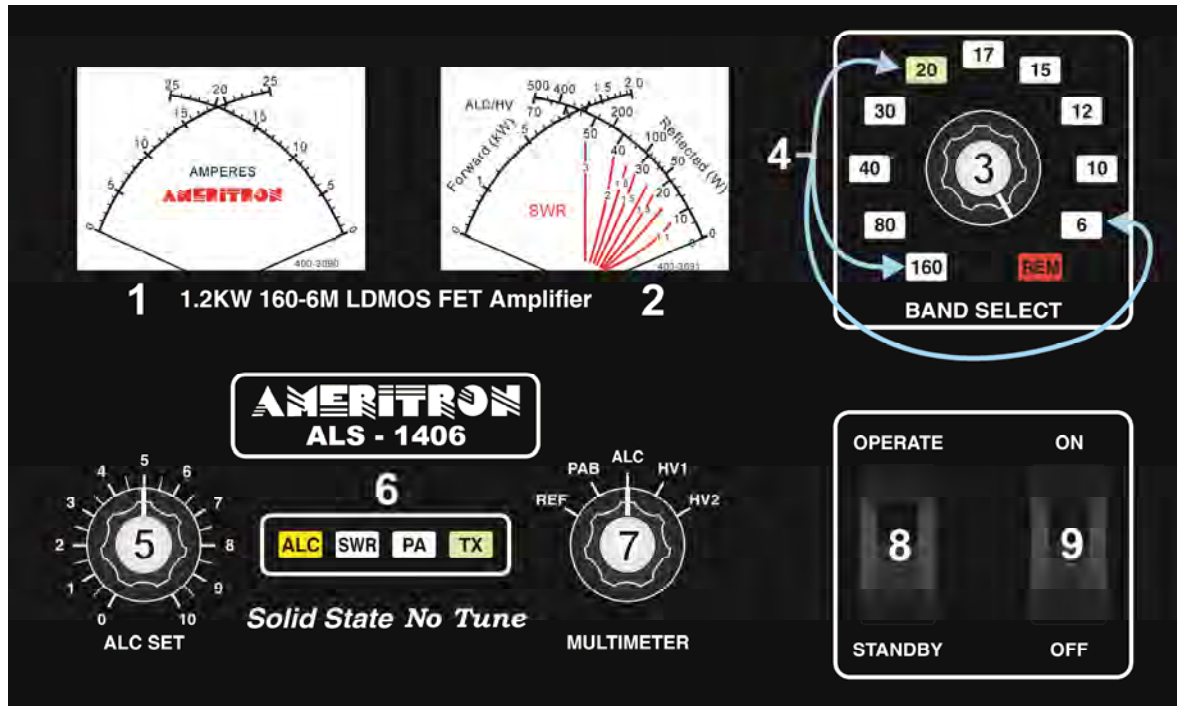

Figure 5 Amplifier Front Panel
Note: The right-hand meter's left scale-arc (fig.5 ref 2) continuously indicates forward peak envelope power (PEP) output directly in kilowatts. It is 100 watts, or 0.1 kW, per meter scale picket. PEP has no fixed relationship to long-term average power except, for constant amplitude carriers like a steady CW carrier, when PEP and average powers are equal. PEP is the highest average power during one (or more) radio frequency cycle(s) at the modulation envelope crest.
This amplifier covers all Amateur Radio frequencies below 54 MHz, as restricted by FCC or your local governing authority. Once you have established proper connections, please set the amplifier (Fig. 5, ref 3) to one of the following bands:
1. Place the **MULTIMETER** switch (fig.5 ref 7) in the **HV2** position. Place the **ALC SET** control (fig.5 ref 5) full clockwise (10 on knob scale). The multimeter is the right-side scale on the rightmost panel meter (fig.5 ref 7).
2. With the **STANDBY/OPERATE** switch (fig.5 ref 8) on **STANDBY**, turn the power switch (ref 9) **ON**.
3. There will be a slightly delayed “click” from the power supply. **HV2** (fig.5, ref 2) should immediately rise to near full scale, and after another delay, you should hear another “click”. The meters and the appropriate **BAND** LED (fig.5, ref 4) should illuminate.
4. The multimeter **HV2 scale** (fig.5, ref 2, bottom right scale) should read between 45 and 55 volts.
5. Change the meter switch (fig.5 ref 7) to **HV1**. The voltage should be the same as in step 4.
6. Rotate the **BAND** switch (fig.5 ref 3) through all positions. The appropriate **BAND** LED will illuminate, and you should hear band-filter relays switch between 160-80, 80-40, 40-30, 20-17, 15-12, and 10-6 selector position changes.
7. Set the **BAND** switch (fig.5 ref 3) to a band where you have a good 50-ohm high-power load connected.
8. Change the meter switch (fig.5 ref 7) to **REF**. In this position, the multimeter indicates reflected power.
9. With no modulation in the FM, AM, RTTY, or CW mode, and the amplifier still on standby, adjust your exciter power to about ten watts. This is to have a steady unmodulated carrier. Verify you have very low power, ideally around 10 watts carrier (not critical), and that VSWR of *the antenna system* is low. You should see almost no deflection on the reflected power scale (fig.5 ref 2) with the **MULTIMETER** switch in the **REF** position. If you see reflected power deflection, check your RF cables and antenna system. **Reminder: You cannot use a tuner in your radio, or between your radio and this amplifier, to match the antenna system. Any antenna matching must be between the amplifier and the antenna, and the antenna tuner and other items beyond the amplifier must be conservatively able to handle over 1200 watts of carrier or peak envelope power.**
10. Place the amplifier in **OPERATE** position (fig.5 ref 8). Be sure the **BAND** on the amplifier matches the band selected on the transceiver.
11. Place the transmitter or transceiver into transmit in FM, AM, RTTY, or CW modes. The green **TX** LED (fig.5 ref 6) should light. The forward power (fig.5 ref 2) should increase to approximately ten times the initial exciter power reading. Reflected power should remain very low, and the PA current should increase slightly on both scales of the current meter (fig.5 ref 1). No other LED's should illuminate.